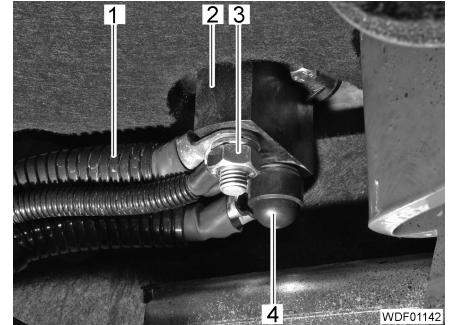

Fig. 493 Electrical connections
- Remove the battery disconnect switch (Fig. 493,2) out of the step plate from below.
- Remove the 2 caps (Fig. 493,4).
- Unscrew the 2 nuts (Fig. 493,3).
- Disconnect the cable (Fig. 493,1) from the battery disconnect switch.
- Connect the cable (Fig. 493,1) to the battery disconnect switch.
- Tighten the 2 nuts (Fig. 493,3).
- Fit the 2 caps (Fig. 493,4) onto the nuts.
- Insert the battery disconnect switch (Fig. 493,2) through the step plate from below.